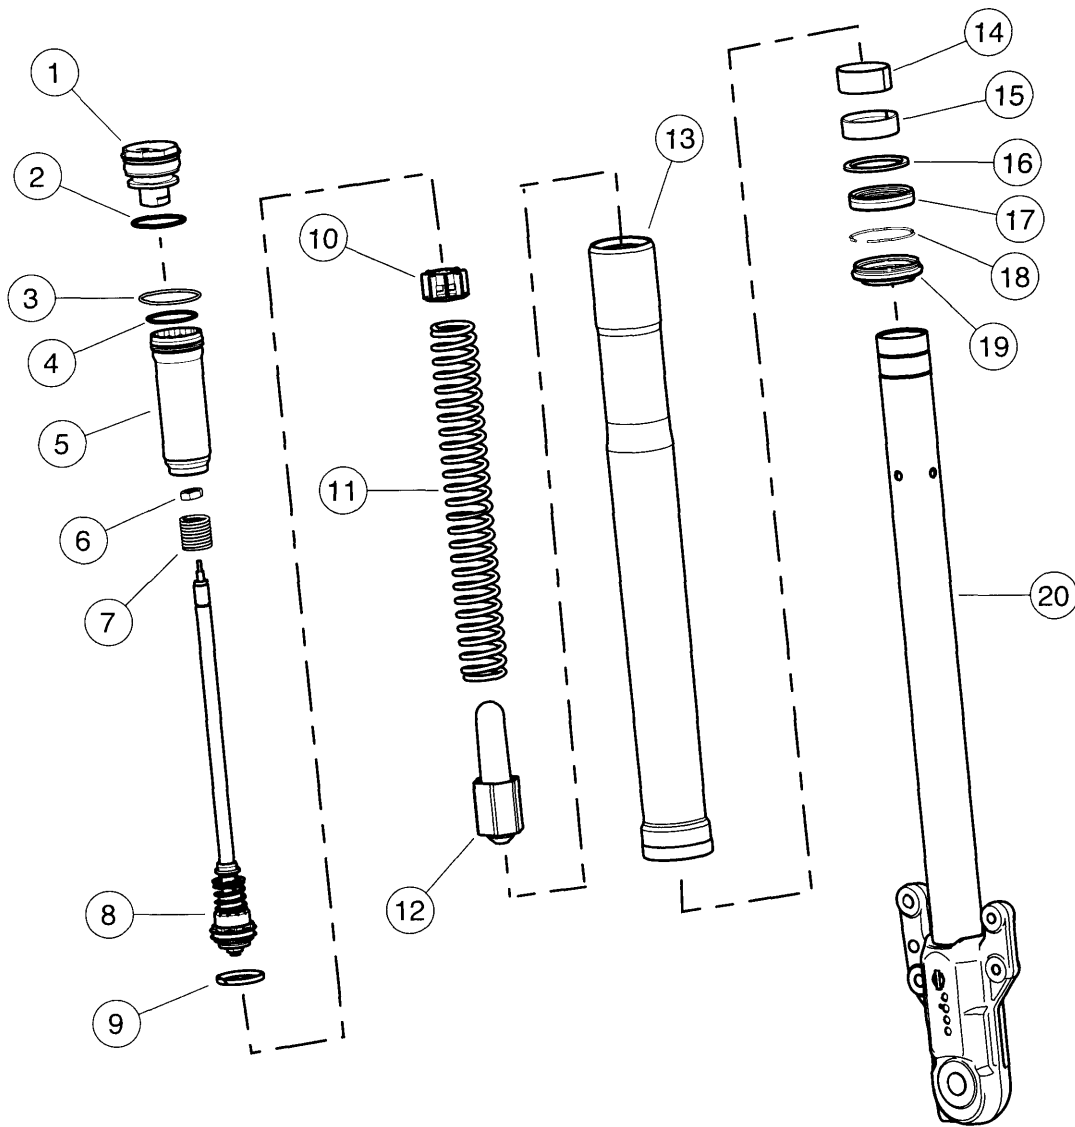

**Figure 2-163. Remove the Upper Spring Collar and the Spring**
1. See Figure 2-163. Drain the oil into a pan and remove: